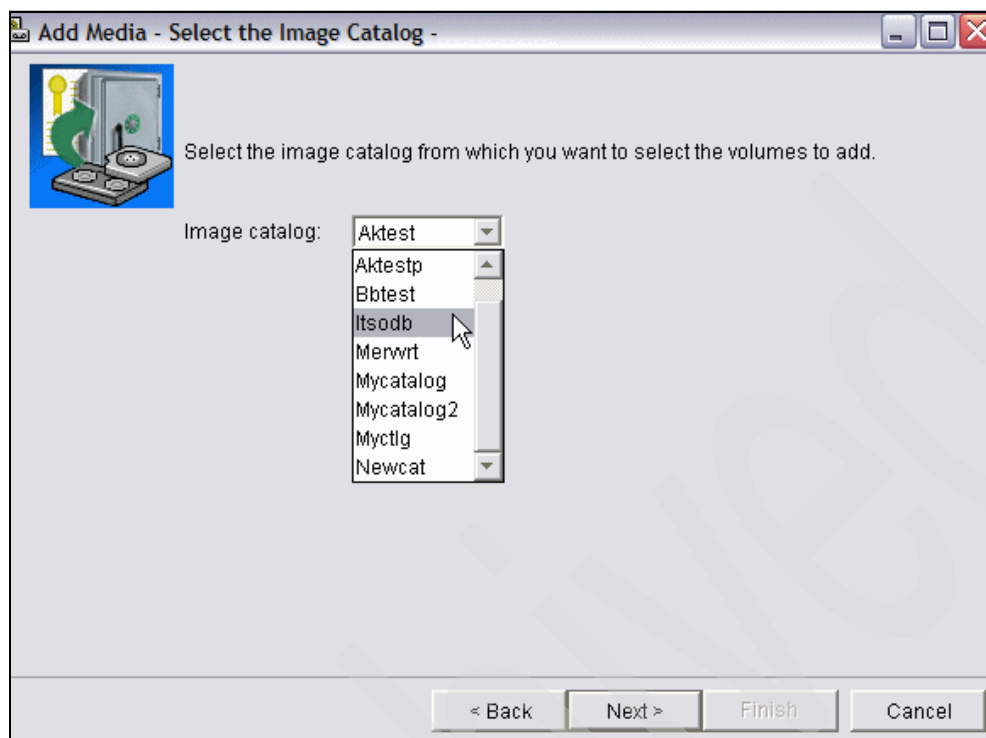

Figure 7-49 BRMS adding media, select media pool
5. Specify where to find the volumes that are going to be added to BRMS. All virtual volumes are created in image catalogs. BRMS presents you with all the image catalogs that it is aware of at this point, as shown in Figure 7-49 on page 382. Select your image catalog **itsodb**, and click **Next**.